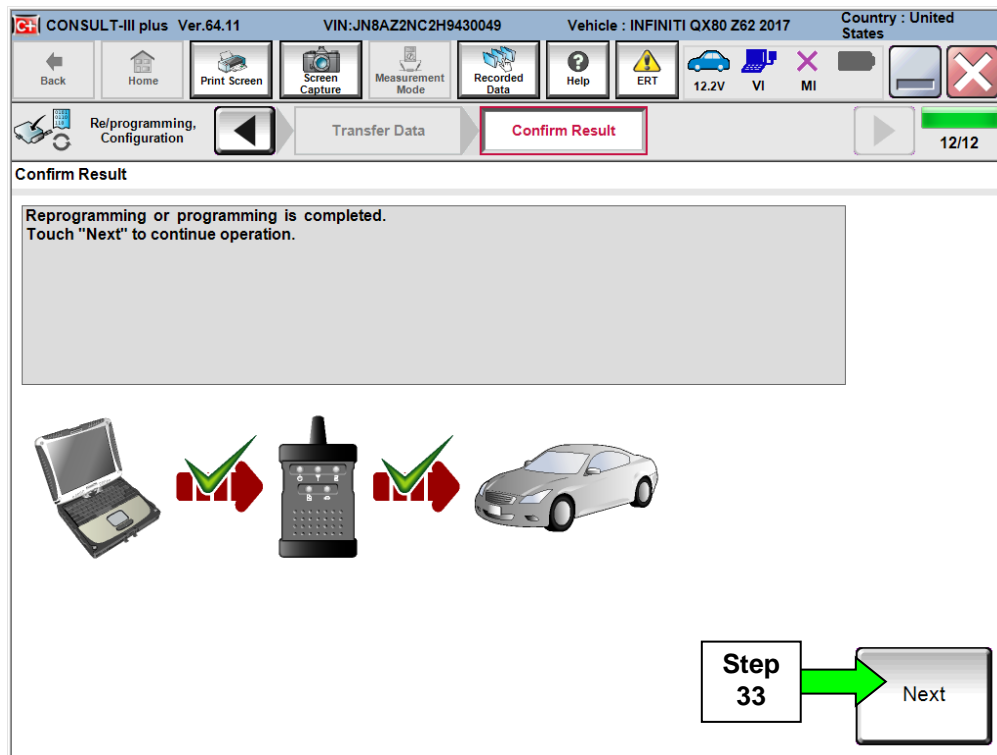

Figure 17
31. When the screen in Figure 17 displays, the reprogramming is complete.
NOTE: If the screen in Figure 17 does not display (reprogramming does not complete), refer to the information on the next page.